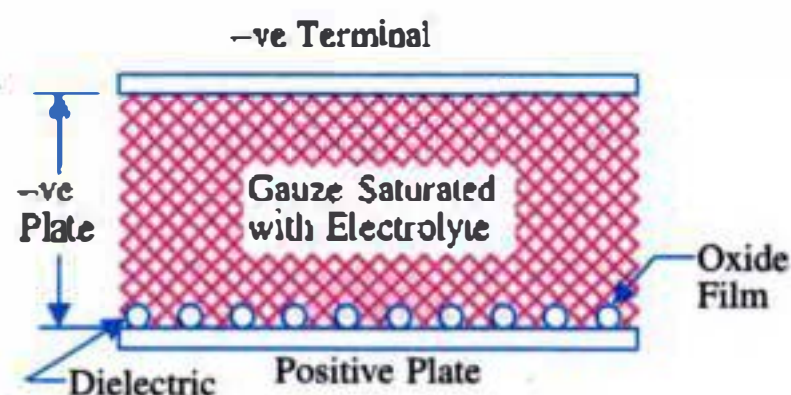

Fig. 5.28
2. an extremely thin (*i.e.*, molecular thin) insulating film of aluminium oxide (Al_2O_3) as dielectric medium. It is electrochemically deposited on the surface of anode itself (Fig. 5.28);
3. an electrolyte of borax (phosphorus or carbonate). As shown in Fig. 5.28, an absorbent gauze saturated with the electrolyte is kept in contact with the dielectric. The second aluminium plate serves merely as contact to the electrolyte. It forms the negative terminal.